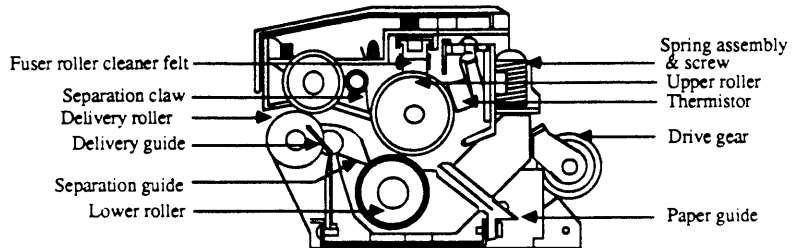

FIGURE 2-23
5. Remove the screws that hold the two pressure spring assemblies at each end of the fuser assembly. (Each spring assembly contains a white nylon bushing and a small metal sleeve.) Remove the spring assemblies and screw (see Figure 2-23).